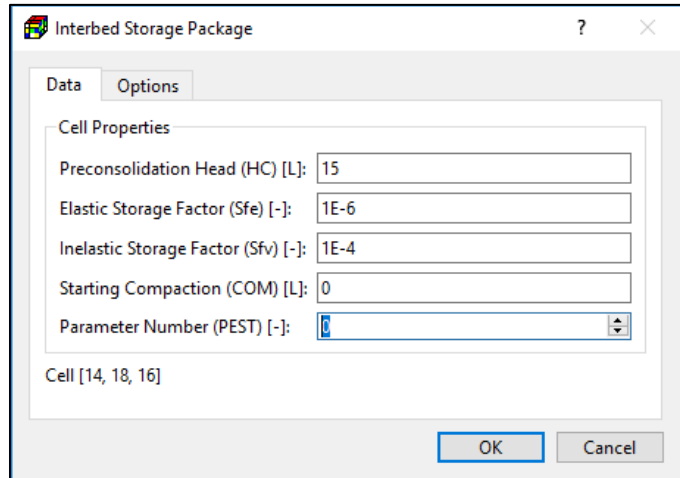

Figure 70. The Interbed Storage Package dialog box
1. **All input methods:** Figure 70 shows the dialog box for specifying cell, vertex, or polygon properties.
- **Preconsolidation Head (HC) or Critical Head [L]:**